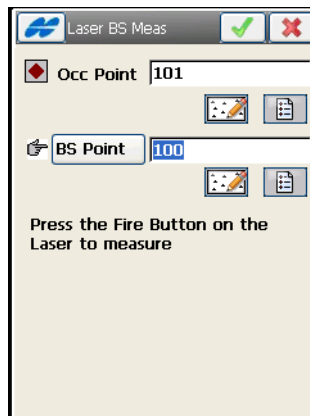

Figure 9-16. Laser BS Meas
**For the Laser with an Encoder** the **Laser BS Meas** screen (Figure 9-16 on page 9-17) first defines an occupation point and backsight azimuth or point to perform backsight measurements.